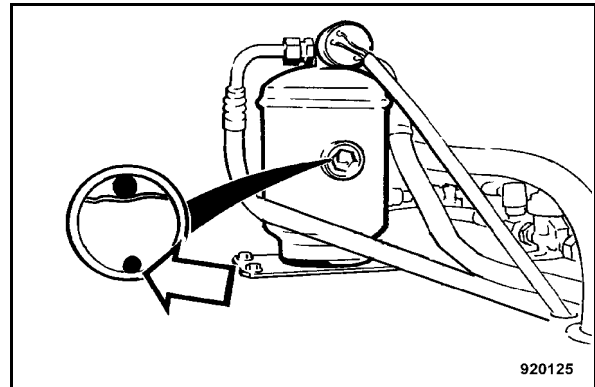

Fig. 149
- Check the moisture indication pearl (Fig. 149) inside the inspection glass of the drier/collector unit.